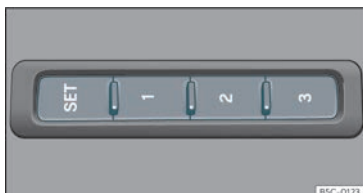

Fig. 104 On the outer side of the driver's seat: memory buttons.
»» **Fig. 104.**
- Press and hold the **SET** button»» **Fig. 104** .